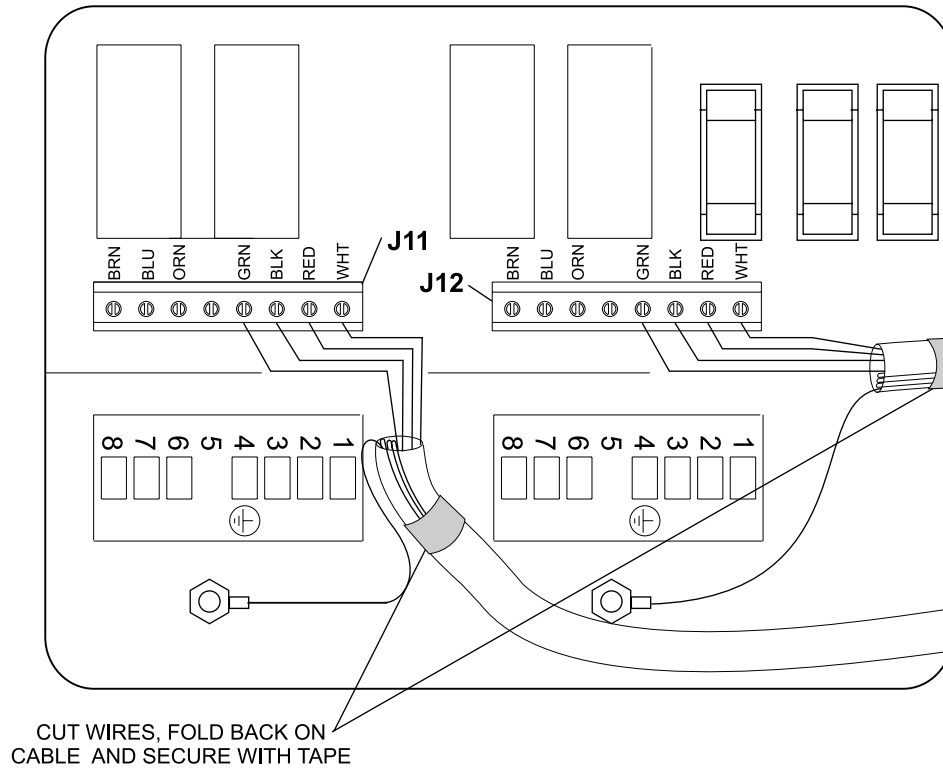

Figure 10
14. Each Left and Right motor wiring harness will have to be modified. Remove the orange, blue, and brown wires from pins 6, 7, and 8 on "J11" and "J12" terminal strip. Refer to *Figure 10*.
15. Cut the orange, blue, and brown wires. Tape the ends of each wire. Refer to *Figure 10*.
- Connect the new wires to “R. LANE MTR” terminal "J12" and “L. LANE MTR” terminal "J11". The orange wire to pin 6, the blue wire to pin 7, and the brown wire to pin 8. Refer to *Figure 10*.